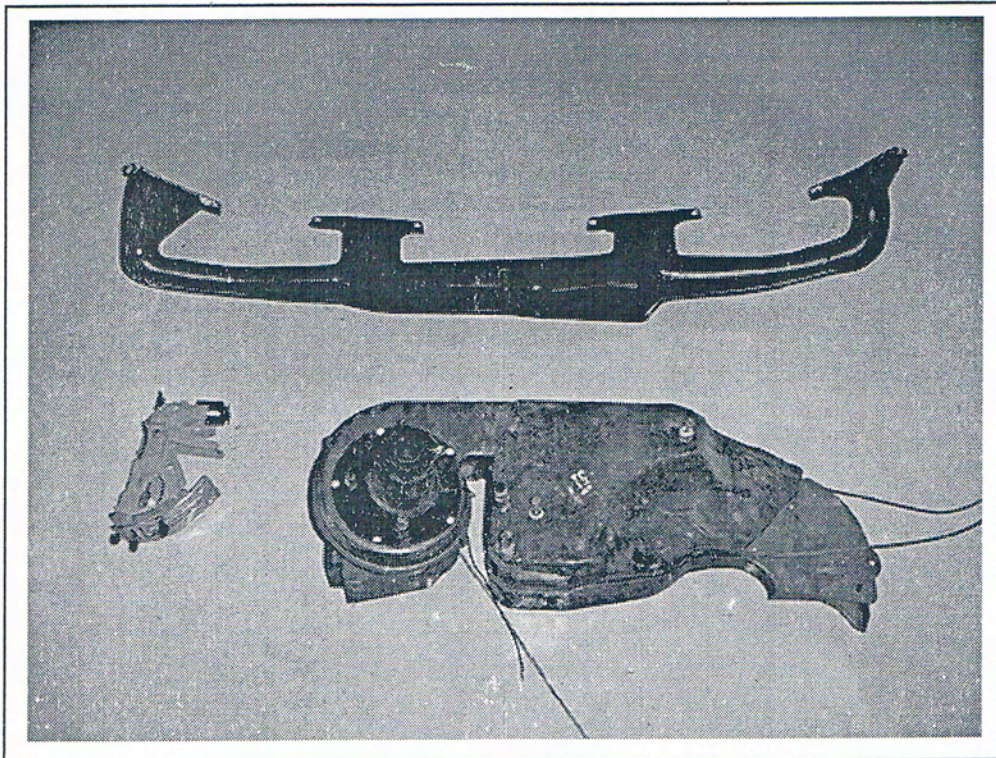

FIGURE 1
8. Remove and discard O.E. **(FIGURE 1)**